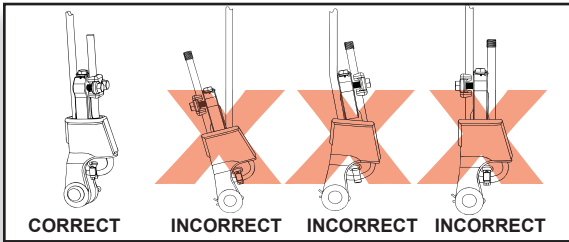

fig. 4.6
- 1- Inspect the wedge socket and make sure the routing is appropriate, as shown in fig. 4.6. Any change to the routing of the wire rope must be performed by a qualified technician. For more information about a qualified technician, refer to p. 7 of the *Performance and Safety* section.